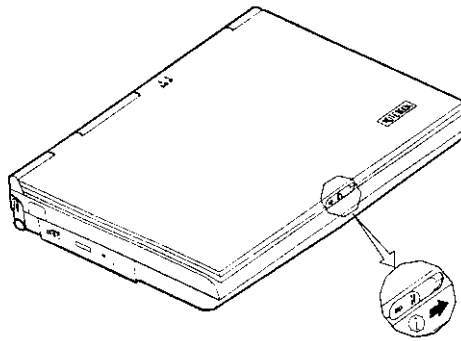

Figure 1-5
1. To release the top cover slide the latch to the right (Figure 1-5).